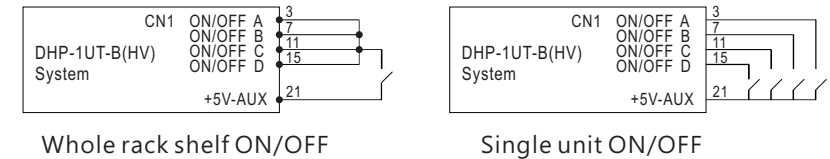

Figure 5-7
- Built-in remote control circuit, refer to Figure 5-7 for control methods of single unit or whole rack shelf.